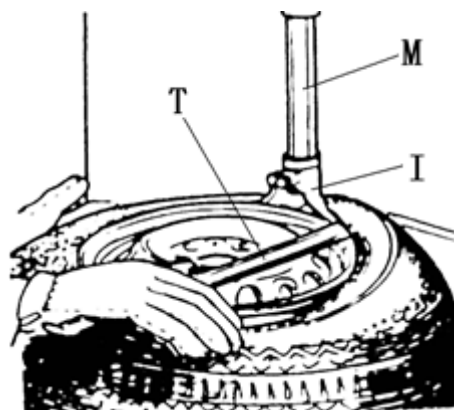

Fig 7
- 3) Insert the tire iron between the tire bead and the mount/demount head's front section, and lift the tire above the mount/demount head as shown in Fig 7.